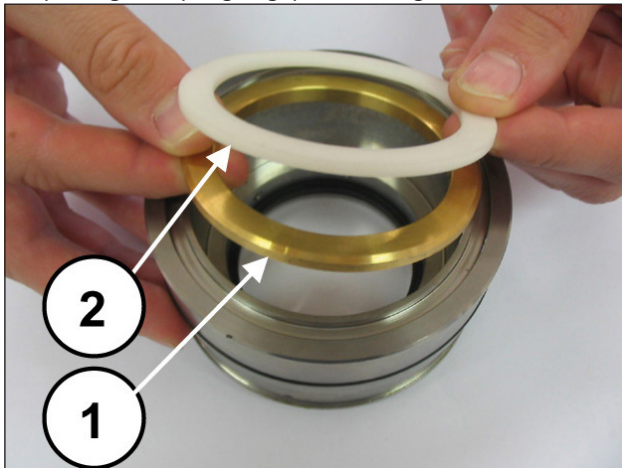
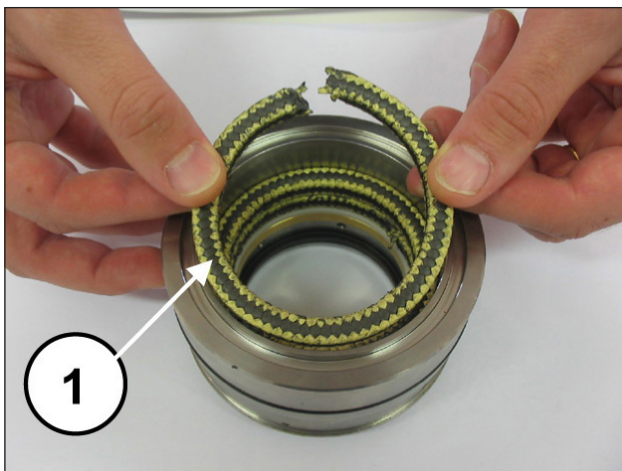
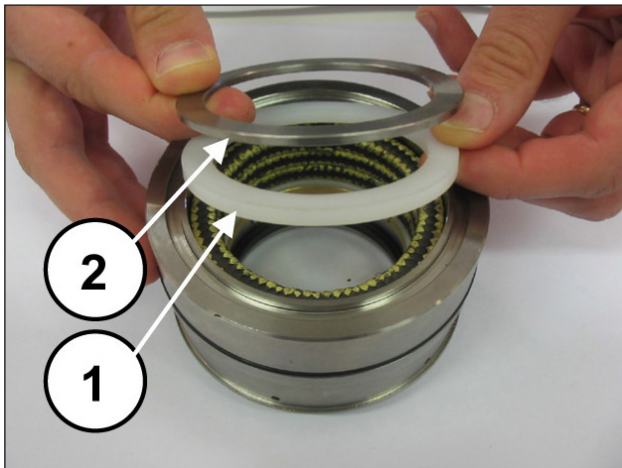

Fig. 153
Fig. 154
Fig. 155
Install the support ring and anti-extrusion ring (pos. ①②, Fig. 153), the No. 3 KC seal rings by taking care that the notches are at 120° from each other (pos. ①, Fig. 154), the scraper ring and spring ring (pos. ①②, Fig. 155)